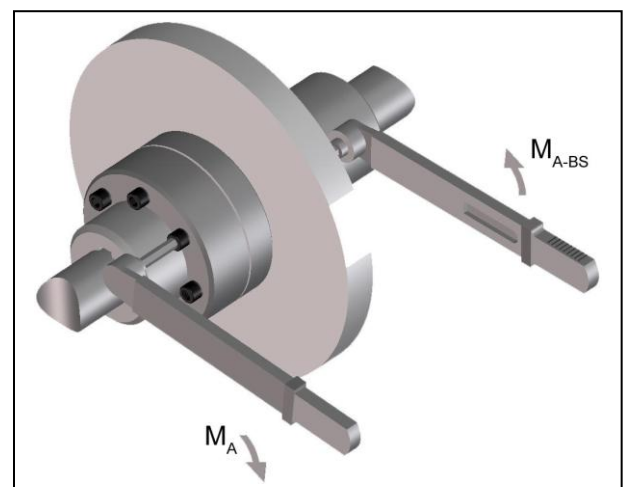

Fig. 13
- Tighten up the claw ring threaded joints with the tightening torque  $M_A$  stipulated in table 8 (Fig. 13).